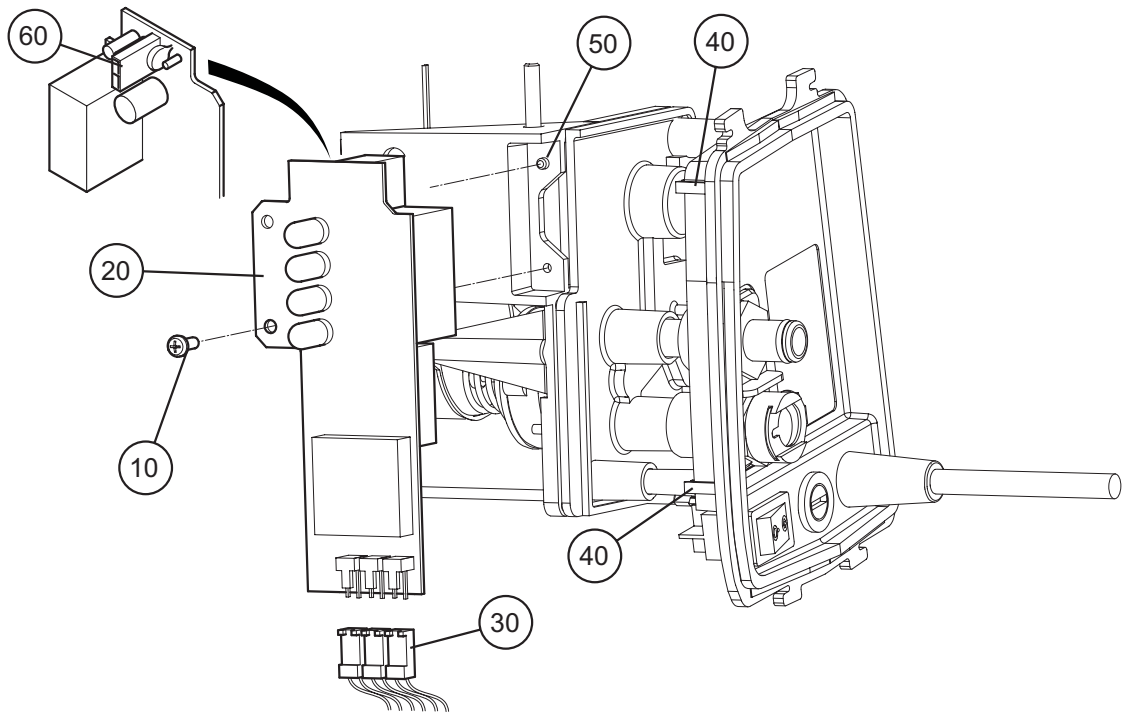

Figure 15 - Removing the Alarm Monitoring PCB
- 30.2 Disconnect PCB power wires (Fig 15, Item 60) from PCB.
- 30.3 Disconnect the three signal connectors from the PCB (Fig 15, Item 30).
- 30.4 Remove the PCB securing screw (Fig 15, Item 10) and withdraw the PCB (Fig 15, Item 20).
- 30.5 Replacement is the reverse procedure to removal. Ensure that the PCB is seated in the two slotted mounts of the side panel (Fig 15, Item 40) and the lug (Fig 15, Item 50) on the pressure control module.